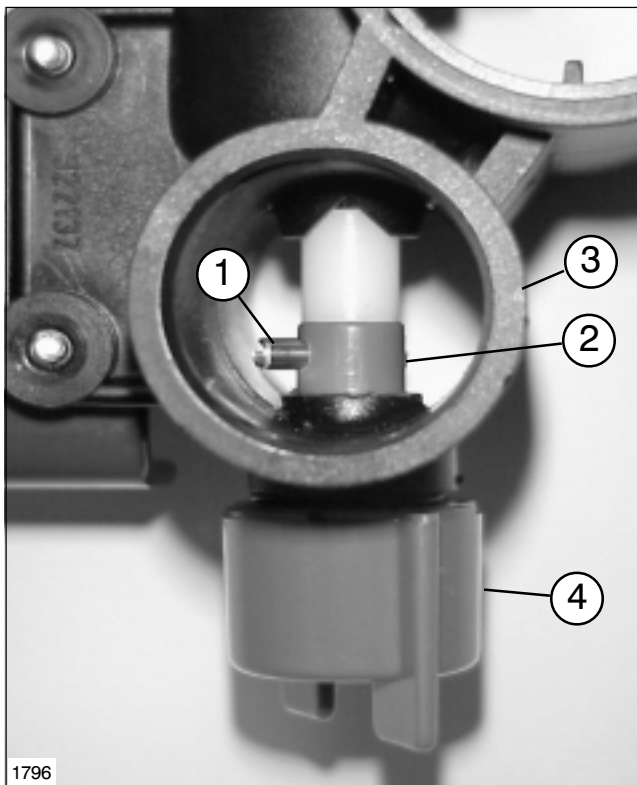

FIG. 57
3. Remove Roll Pin securing the Boom Bypass Valve to the Distribution Valve Assembly. (See FIG. 57)